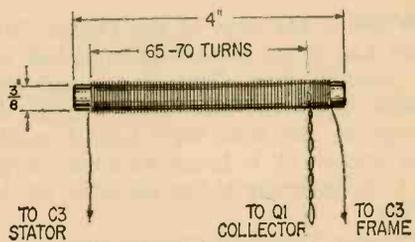

FIGURE 5
**Roll Your Own.** The drawing of Fig. 5 shows you how to make the ferrite core coil,
L1. The coil works fine as an RF coil and you can also use it as an antenna coil in another project. A length of 10-38 Litz wire and a 3/8-inch diameter ferrite core was used in this project, but alternate materials can be used. For example, Belden 7-41 Litz (Lafayette 32G1485) can be wound on .33-inch ferrite core (Lafayette 32G6102). Or simply use No. 26 enameled cotton-covered magnet wire instead of Litz. Note from Fig. 5 that the first 10 turns of the coil are close-wound while the remainder of the turns are slightly spaced. Use Duco or coil cement to hold the wire at the ends of the coil and to secure the twisted tap to the collector of Q1 from the tenth turn on the coil.